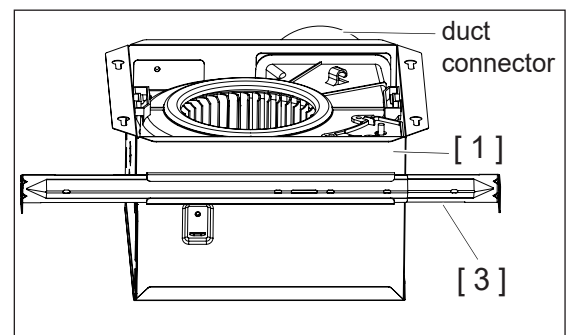

Fig 11
1. Insert two Long Brackets [ 3 ] to the slot at the backside of Fan Body [ 1 ] as figure shows. (Fig 11)